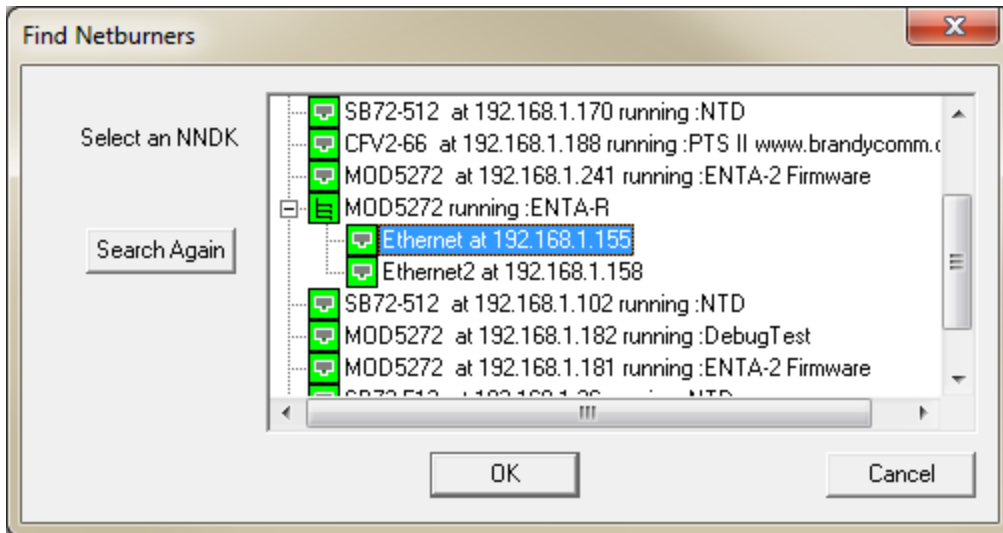

Figure 2. NetBurner IPSetup Screen
2. Double click on the IPSetup.exe icon and Figure 2 will be displayed.